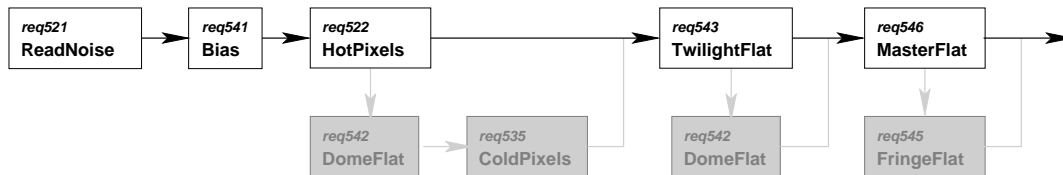
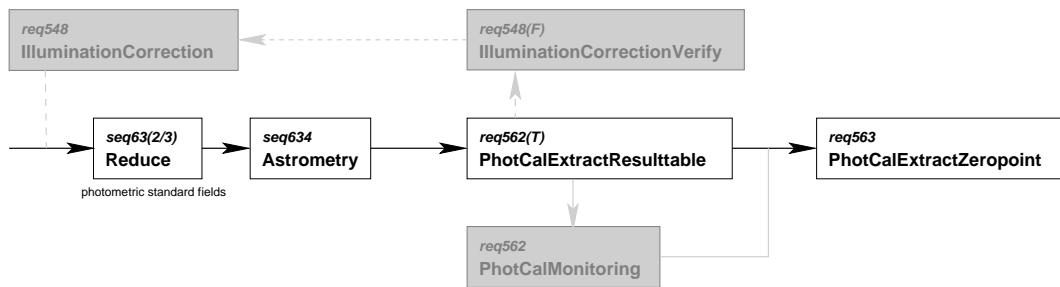

Figure 10.1: The order and flow of the atomic processing steps in the bias and flat field pipelines. The lightly shaded parts show the (optional) branches.
Figure 10.2: The order and flow of the atomic processing steps needed to do the photometric calibration. The lightly shaded parts show the (optional) branches.
The sequence of tasks that make up the bias and flat field pipelines is shown in Figure 10.1. The sequence of tasks that should be run for the photometric calibration is shown in Figure 10.2. In these figures, each one of the individual tasks is represented by one box. The arrows indicate the flow of the pipeline, and the shaded parts show particular (optional) branches therein.
The bias and flat field pipelines are pretty straightforward : no difficulties or surprises here. Note, however, that after having derived the masterflat, the processing continues in the photometric pipeline (hence the arrow at the end of the line in Fig. 10.1).
The photometric pipeline is more tricky than the bias or flatfield pipeline for two reasons: (1) a piece of the image pipeline must be run to process the photometric standard fields (hence the **Reduce** and **Astrometry** boxes in Fig. 10.2), (2) the optional branch of the illumination correction is an iterative loop that in Fig. 10.2 actually runs backwards (characterising the illumination variation is more of an interactive process).